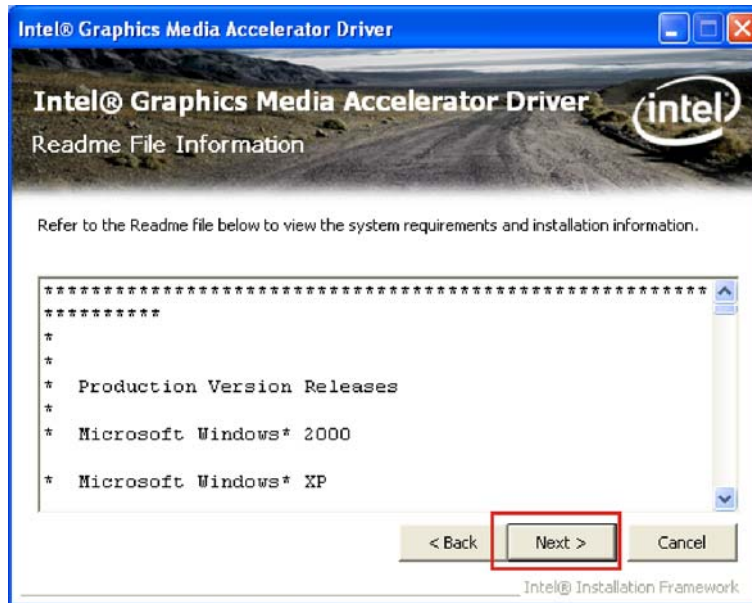

Figure 7-13: VGA Driver Read Me File
Step 30: The Readme file in Figure 7-13 appears.